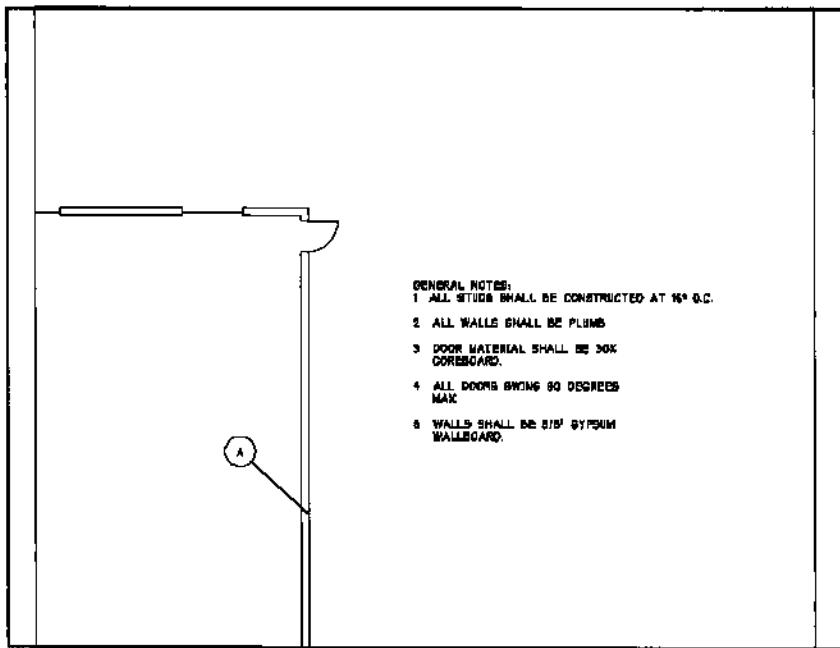

Figure 16.
1. Label the wall using a circular tag, which ASG calls Alpha Tag, containing the Letter A as shown in Figure 16.
- > Pick item to tag: NEA to [select the wall as shown in Figure 16 to locate the starting point of the leader]